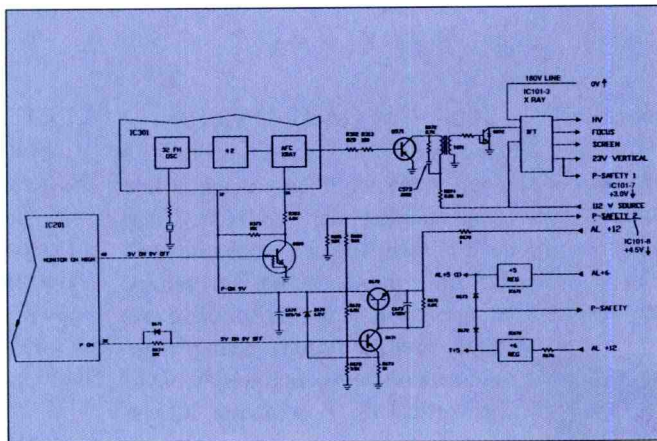

Figure 5
2. If voltage is still present on the base of Q611 after the on command has been given, you may be sure Q609 and Q611 haven't done their job. Begin by confirming a voltage change on the base of Q609. The transition should be from a low to a high. If you don't witness the transition from low to high, proceed directly to the microprocessor (Figure 5). If the base of Q609 goes high, check the base of Q610 for a low. If you don't find the low, check Q609 for an open. If it goes low, check Q610 for a short. If you don't find a voltage on the base of Q611, check the base for a short.